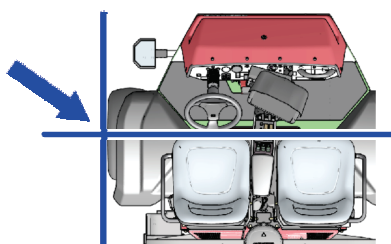

Figure 40
- Align the outside, center part of the left front tire at the starting point of the new field boundary (Figure 40).